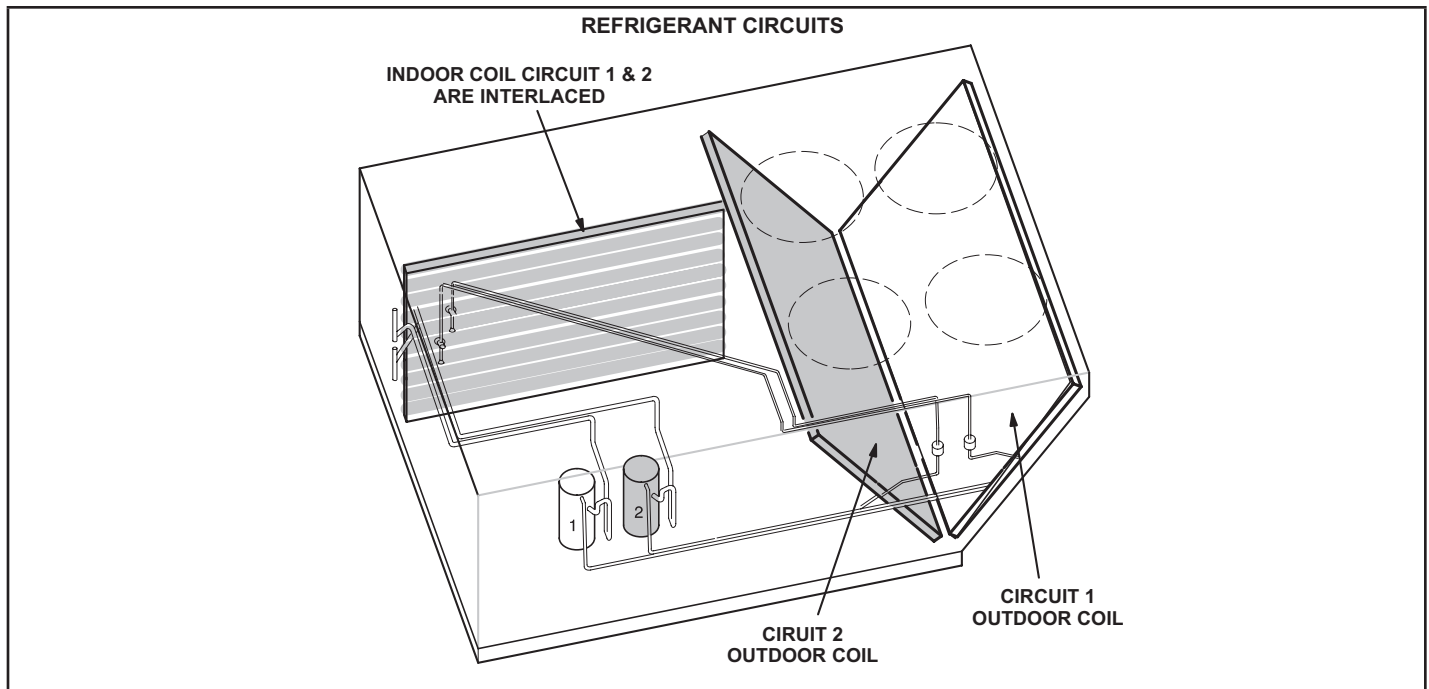

FIGURE 24
- 3 - Units contain two refrigerant circuits or systems. See FIGURE 24.